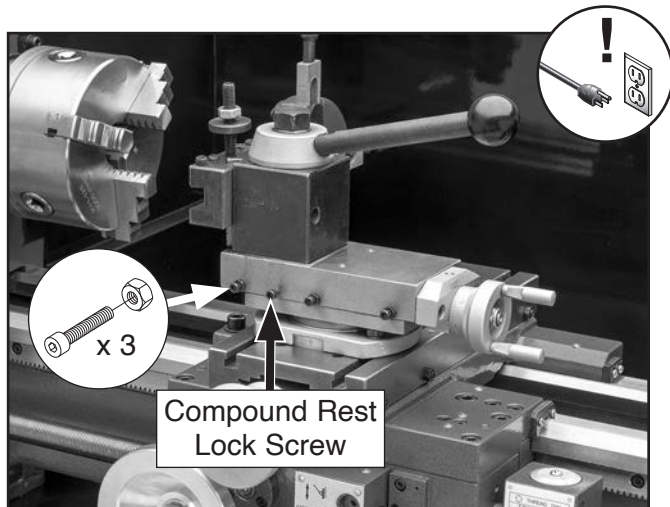

Figure 125. Location of compound rest gib cap screws and jam nuts.
2. Loosen compound rest lock cap screw (see **Figure 125**).
- Without turning gib cap screws, loosen (3) gib jam nuts shown in **Figure 125**.
- Make adjustments in small and equal increments to (3) gib cap screws (see **Figure 125**), then test movement of slide by rotating handwheel.